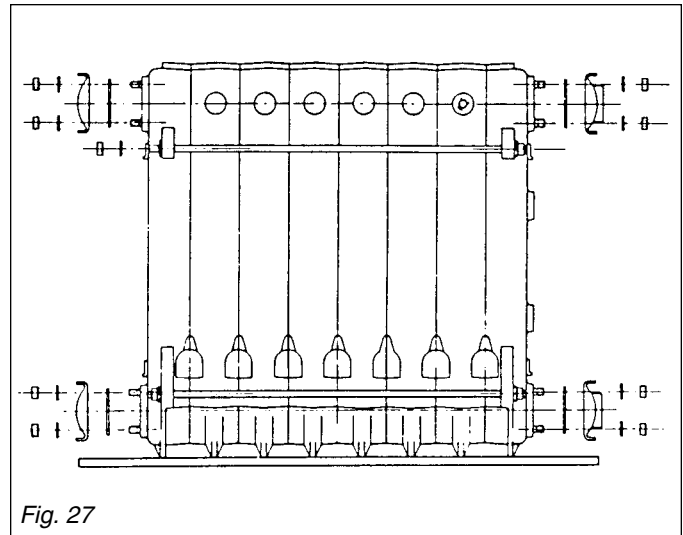

Fig. 27
- 1) Remove the boiler tie rods from boiler block; individual section blocks come apart, remove the rubber shipping washers. See Fig. 27.
- 2) Remove the threaded flanges from end sections. See Fig. 27.
- 5) Insert the boiler tie rods again and tighten them with moderate force only. Remove assembly tools and re-install all flanges. See Figs. 27, 27a.